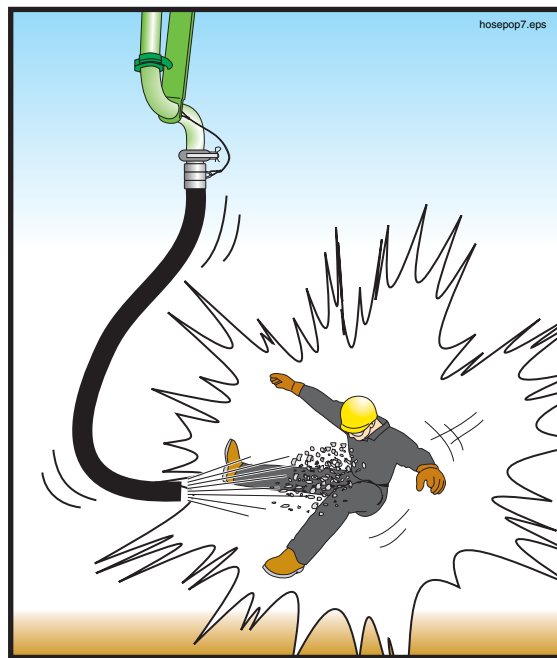

Figure 77
⚠ WARNING Do not let the concrete level in the hopper become low! If air is sucked into the material cylinders, the pump will compress the air. Compressed air always poses a hazard as it is expelled from the hopper or the delivery pipeline (Figure 77). If air is taken into the material cylinders, take the following steps to minimize the hazard:
3. Persons standing at the discharge end or near the delivery line must be warned to move away until all of the air has been purged. Warn them to stay a reasonable and prudent distance beyond the reach of the end hose or point of discharge (Figure 77).
When initially priming the delivery system, when restarting after moving, when restarting after adding or removing hoses, or whenever air has been introduced into the line, warn everyone to stay away from the discharge until concrete runs steadily and there is no movement of the delivery system. Personnel should stay back a reasonable and prudent distance beyond the reach of the end hose or point of discharge (Figure 77). Air will be in the line when first starting,